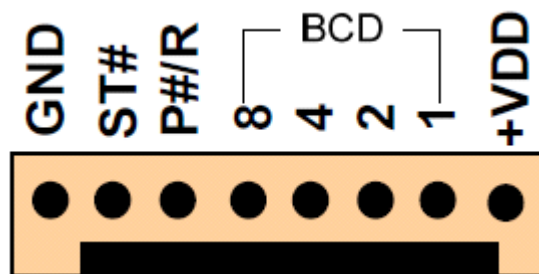

Fig. 2: BCD Header pin-out
6. **BCD Header:** It is 8-PIN 0.1" male connector use for power and sends out keypress data in Binary BCD8421 format. See figure 2 for the pin-out.